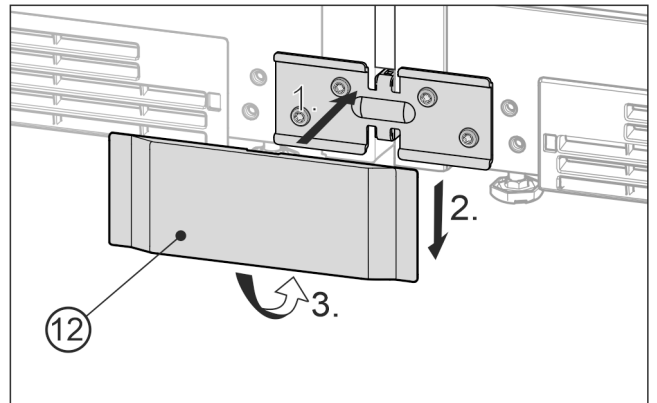

Fig. 28 Example illustration
- ▶ Place the bottom cover Fig. 28 (12) onto the bracket from the front Fig. 28 (1), slide it down Fig. 28 (2) and snap it in at the bottom Fig. 28 (3).